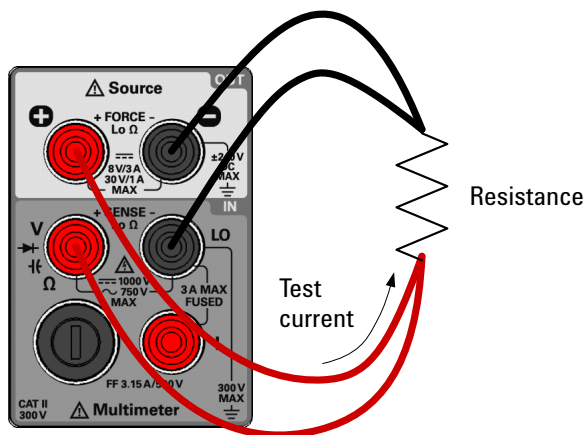

Figure 2-4 Terminal connections for 4-wire resistance measurements
- 2 Connect the first red and black test leads to output terminals **+** (FORCE +) and **−** (FORCE −) respectively as shown in **Figure 2-4**.
- 3 Connect the second red and black test leads to input terminals **Ω** (SENSE +) and **L0** (SENSE −) respectively as shown in **Figure 2-4**.